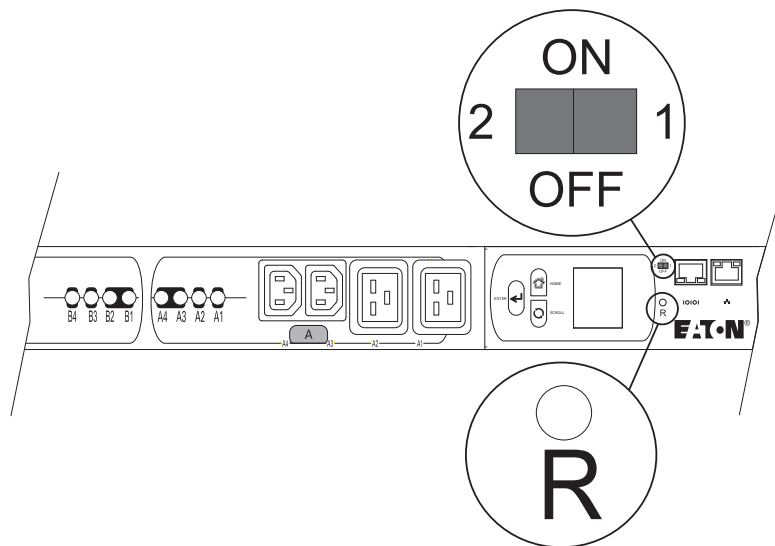

Figure 87. DIP Switches and Reset Opening on Front Panel
2. Insert a probe in the Reset opening (labeled R) on the ePDU front panel. Press the recessed Restart button and retract the probe. The Network Management Card restarts (see Figure 87).